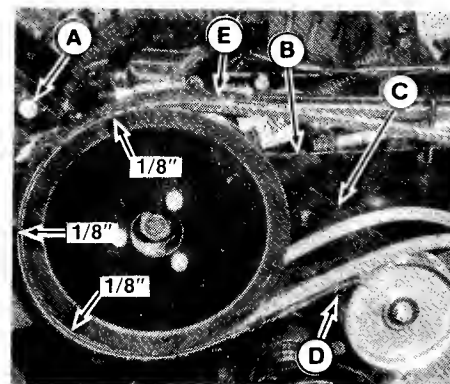

Figure 33. Rear Belt Guard Adjustment
- c. With the idler arm against the right sideplate, move the cam lever so that it is flush against the left edge of the gate finger (C).
4. **Rear Belt Retainer Adjustment.** The transmission pulley belt retainer should be adjusted so that there is 1/16 - 1/8 inch (1.5 - 3 mm) clearance between the edge of the retainer and the large outside pulley on the transmission. (See figure 33.) The retainer should follow the curve of the pulley evenly. If necessary, bend the retainer so that its edge follows the curve of the pulley evenly.